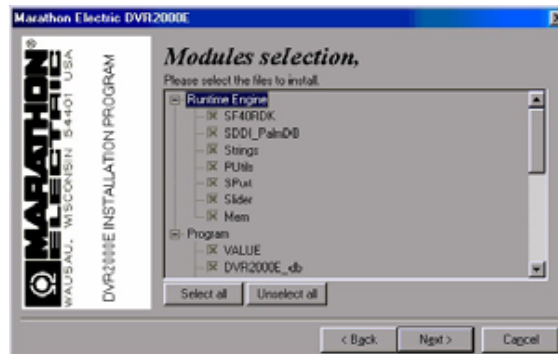

Figure 6-3. Modules Selection Screen
3. Accept the default installation location by clicking Next> or change the location to the desired folder and click Next>. The Modules Selection Screen (Figure 6-3) appears.